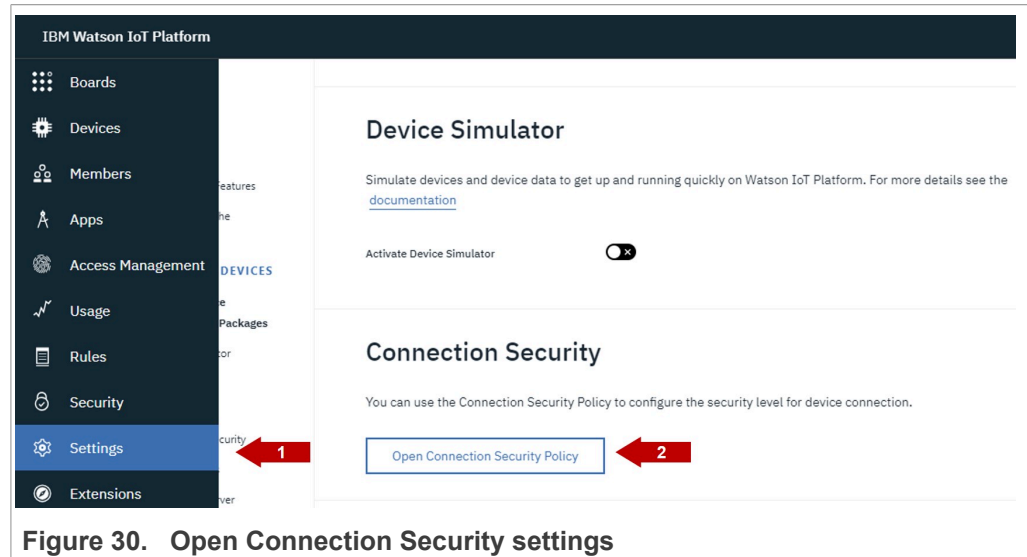

Figure 30. Open Connection Security settings
1. Click on *Settings*, navigate to *Connection Security* and click **Open Connection Security Policy** as shown in Figure 30: